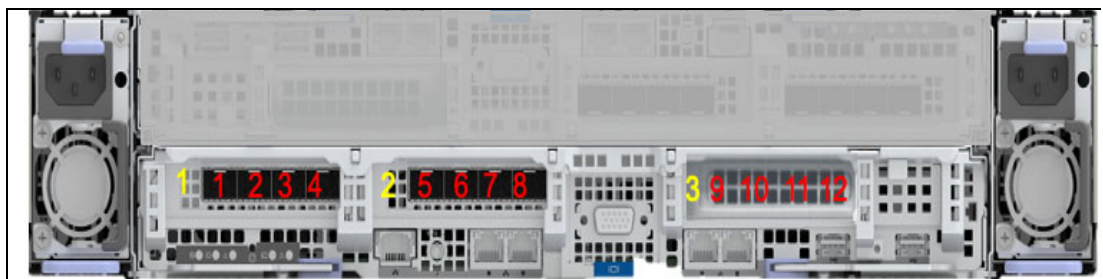

Figure 2-9 Port location in FlashSystem 9200 rear view
The IBM FlashSystem 9200 can have up to three quad Fibre Channel (FC) HBA cards (12 FC ports) per node canister. Figure 2-9 shows the port location in the rear view of the FlashSystem 9200 node canister.